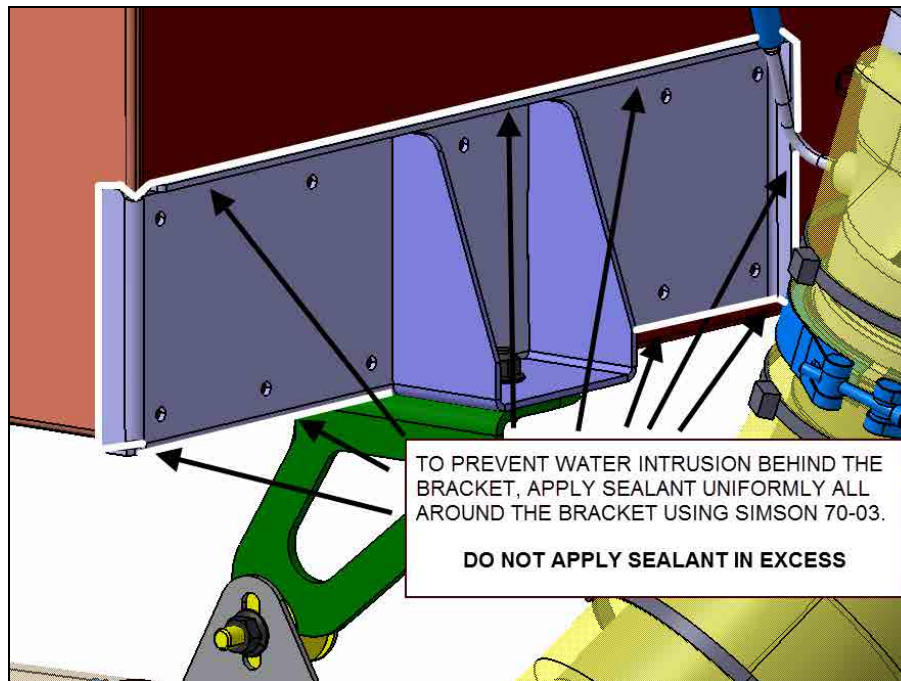

FIGURE 3
- 10) To prevent water intrusion, seal uniformly all around the reinforcement bracket using Simson 70-03. Do not apply sealant in excess (figure 3).